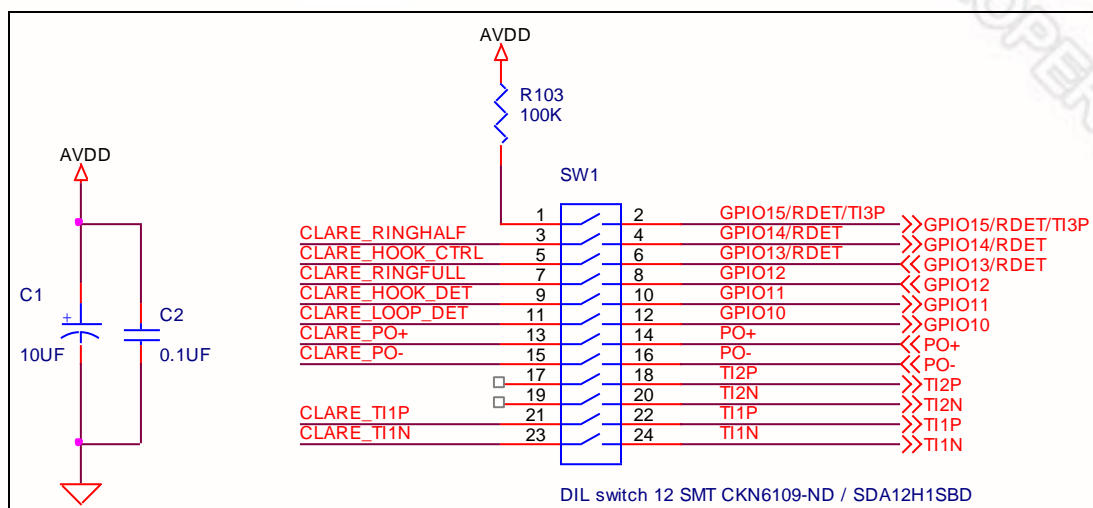

Figure 2-5 Switch of Clare DAA
To use the Clare DAA, users need to switch SW1 (C) as in Figure 2-5. The switch SW1 (C) of Clare DAA is a counterpart of the switch SW11 of Discrete DAA.